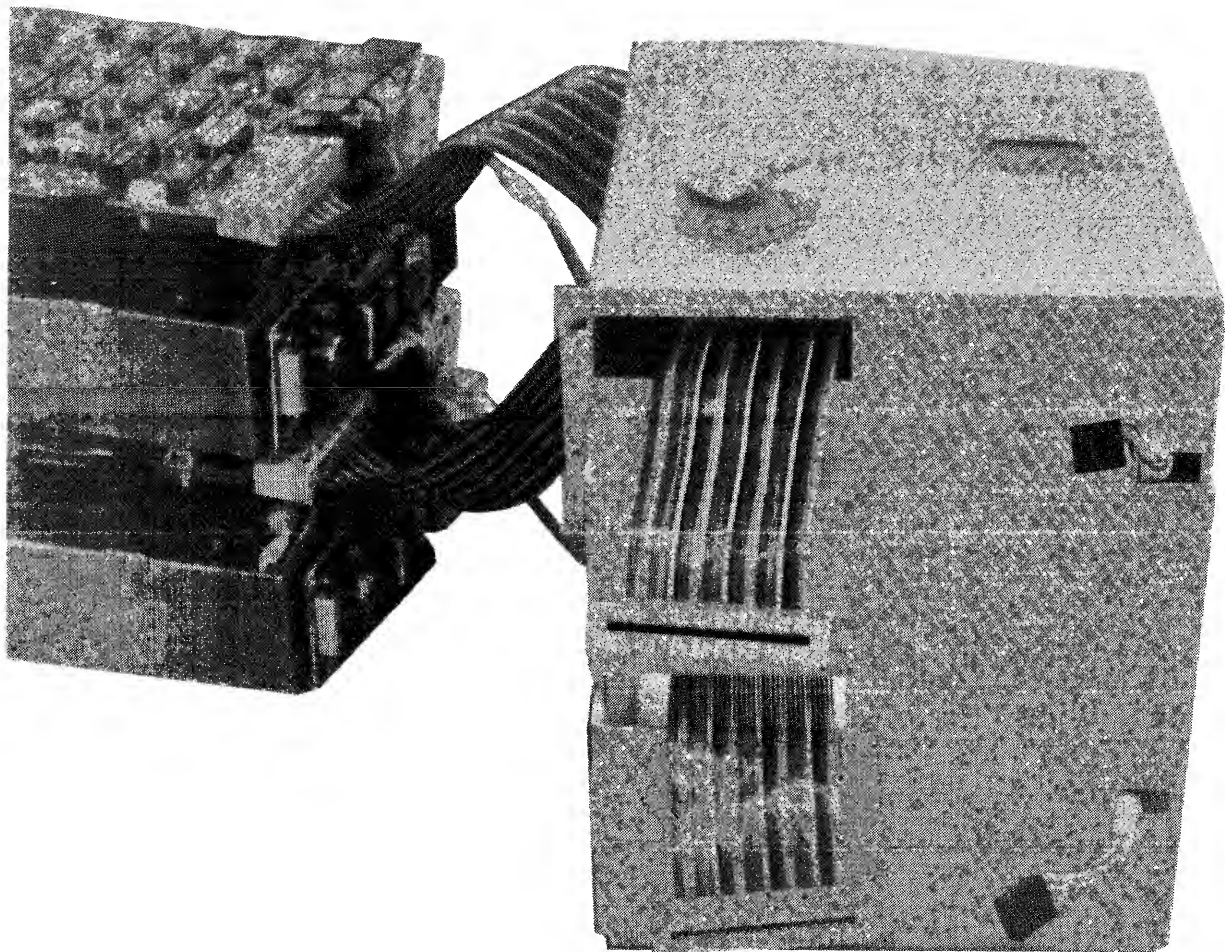

Figure 2-3. Mini Drive Cable Installation
- g. Remove the shield box from the mainframe. The Mini Drives are located inside the shield box. There are four screws for upper drive 0 and four screws for lower drive 1 which attach the shield box to each of the drives. Remove the applicable screws. Remove the Mini Drive(s) from the shield box. See figure 2-3 thru 2-5.
- a. Place Mini Drive(s) cables into and through shield box as shown in figure 2-3. Make sure cables are not bent or twisted.